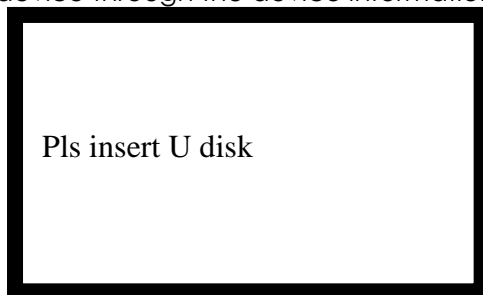
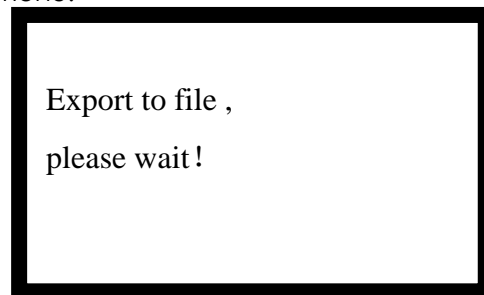

Fig. 4-17
Fig. 4-18
- Selecting "2. Export File" enters the screen of Fig.4-17. Inserting U disk into the USB (Type A) port, the telephone control panel identifies it and then enters the screen of Fig.4-18. At the moment, the telephone control panel automatically saves 《DeviceInformation +local address.csv》 and 《HistoryInformation+local address.csv》 to U disk and returns to the previous screen.
- Selecting "3. Import File" enters the screen of Fig.4-17. Inserting U disk into the USB (Type A) port, the telephone control panel identifies it and then enters the screen of Fig.4-18. At the moment, the telephone control panel automatically saves 《DeviceInformation +local address.csv》 to the flash and returns to the previous screen.